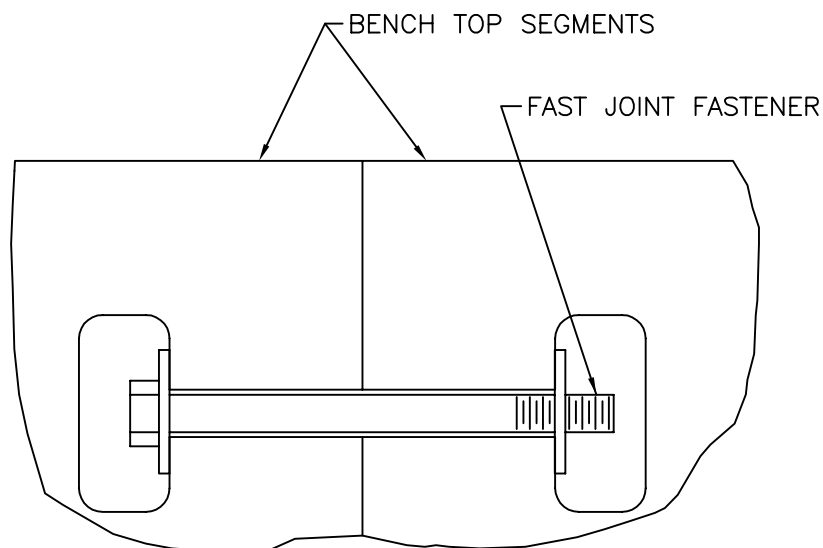

FIGURE 2
STEP 1: 10' and 12' Bench Units are made as illustrated of two (2) segments. The segments must be fastened together, with "Fast Joint Fasteners" provided, before placing on the top shelves of the Bench assembly (see Figure 2).